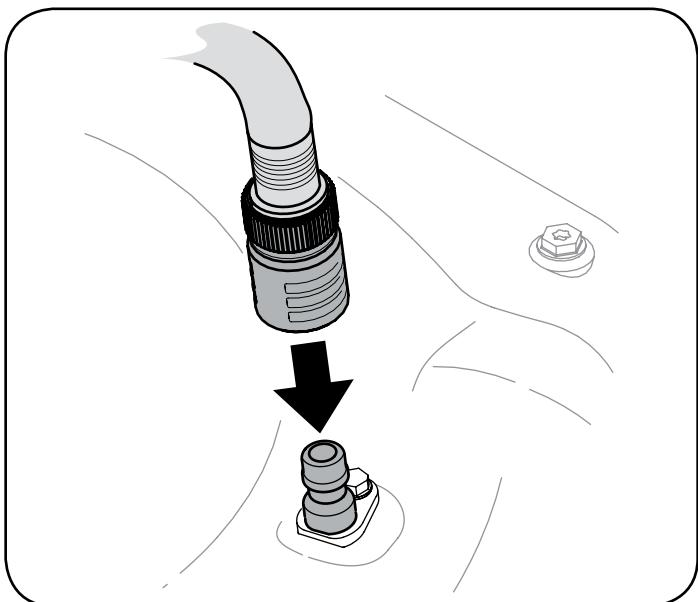

Figure 15
3. Attach garden hose with the deck wash nozzle to the water port on your deck's surface. See Figure 15.